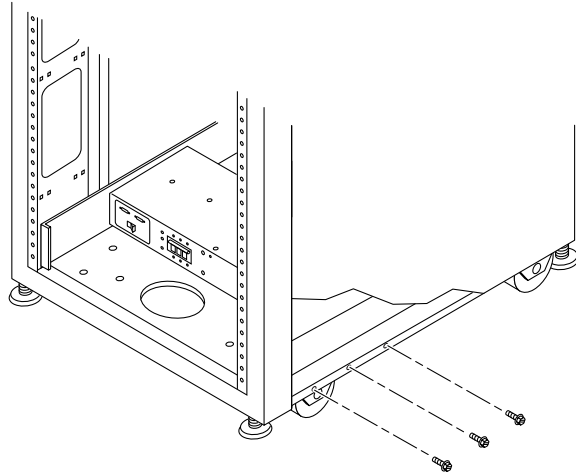

FIGURE 2-5 Removing the Mounting Screws
1. Remove the three mounting screws on the bottom right of the storage system (FIGURE 2-5).